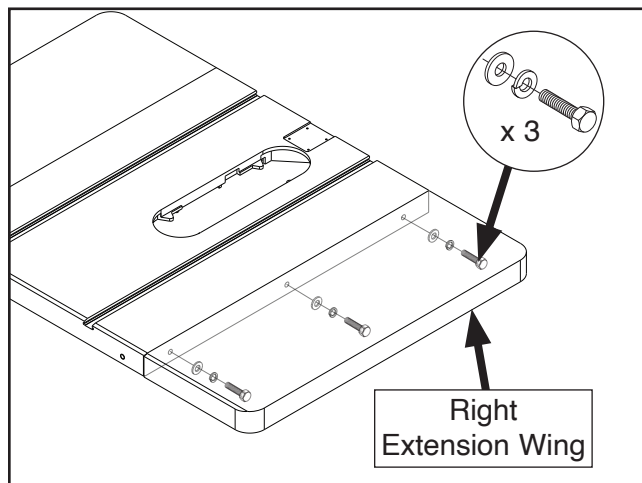

Figure 18. Mounting right extension wing to main table.
6. **Model G1023RL:** Repeat **Step 2** with right extension wing and have someone hold it in place while you mount it to main table with (3) $\frac{3}{8}$ "-16 x $1\frac{1}{4}$ " hex bolts, (3) $\frac{3}{8}$ " lock washers, and (3) $\frac{3}{8}$ " flat washers (see **Figure 18**).